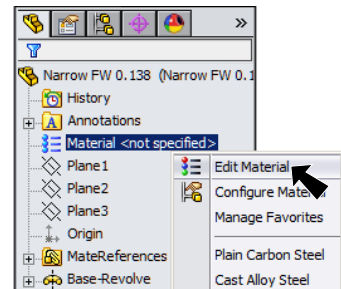

Fig. 8
Step 1. **Right click Material**  in the Feature Manager and click **Edit Material**, **Fig. 8**.